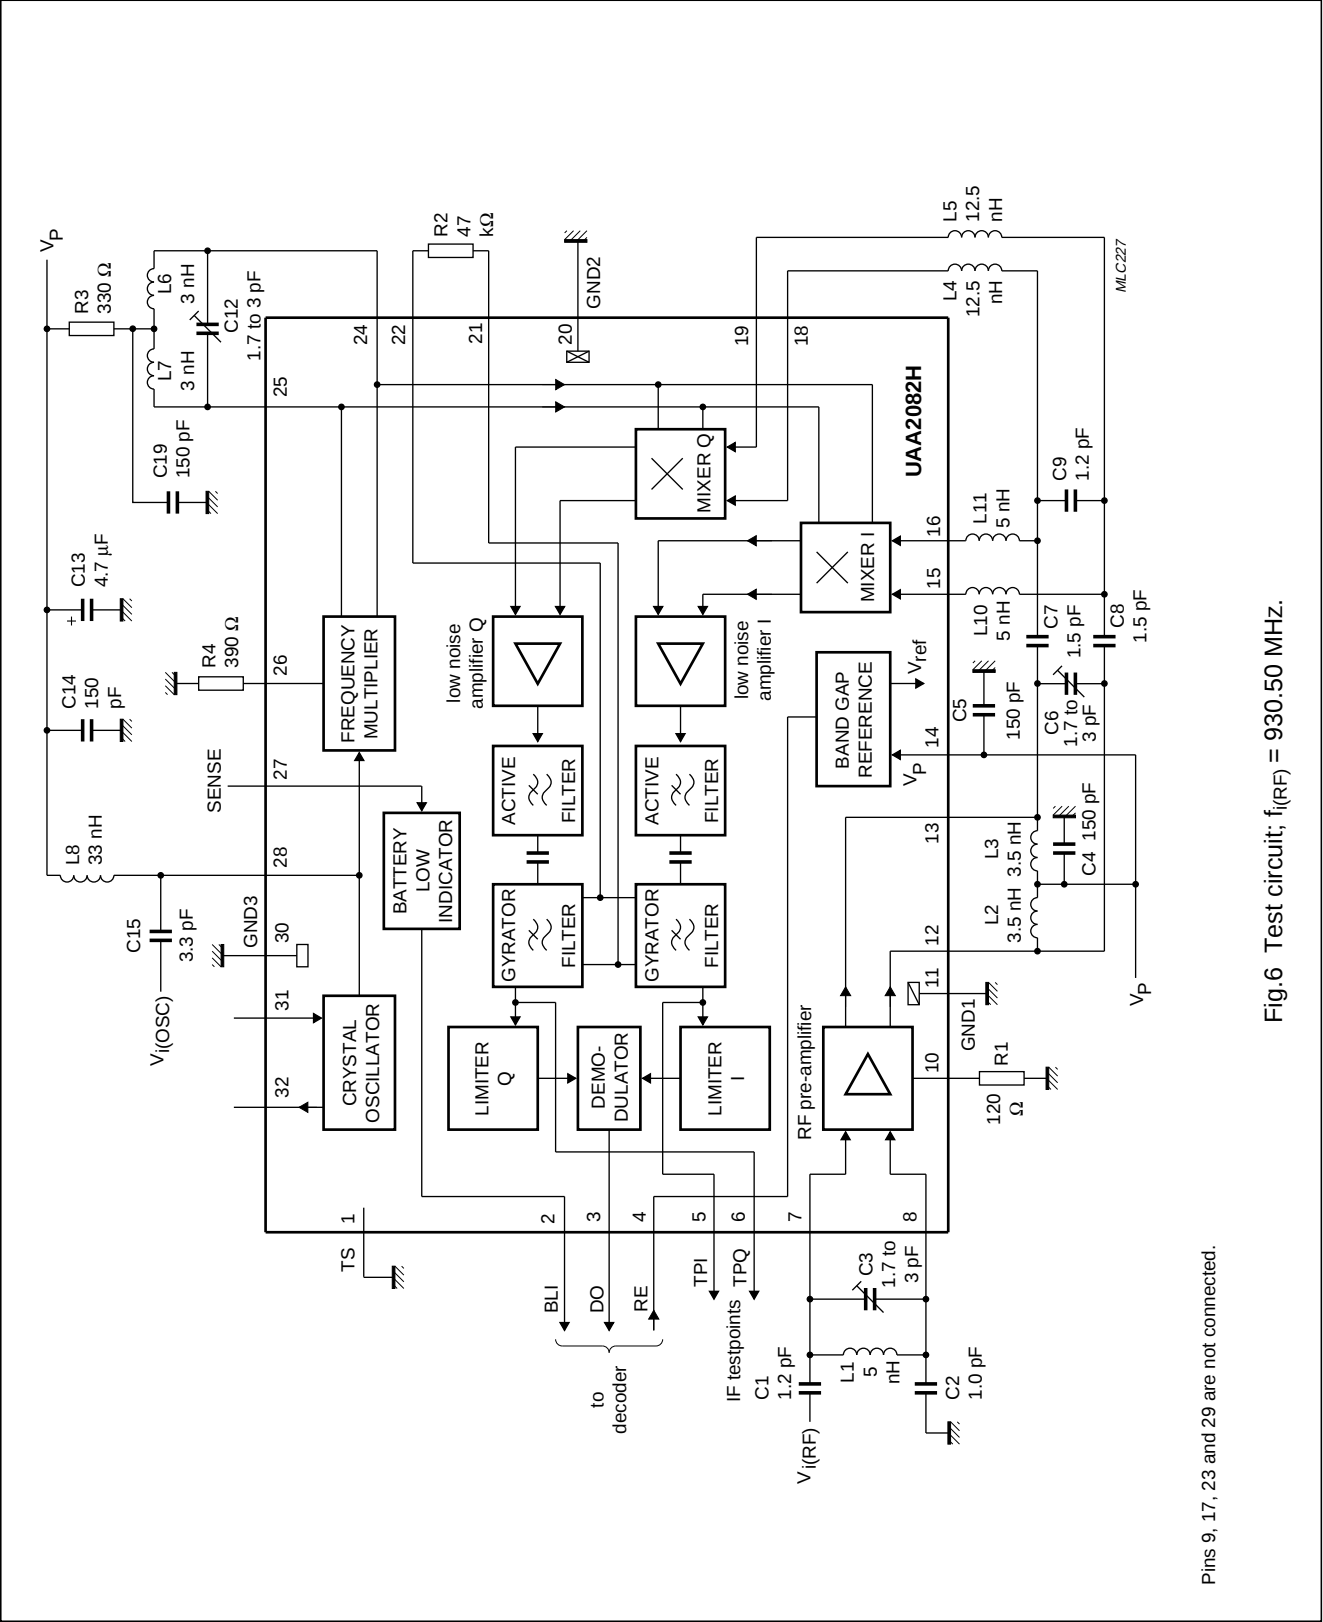

Fig.6 Test circuit;  $f_{i(RF)} = 930.50 \text{ MHz}$ .
**Table 3** Tolerances of components shown in Fig.6 (note 1)